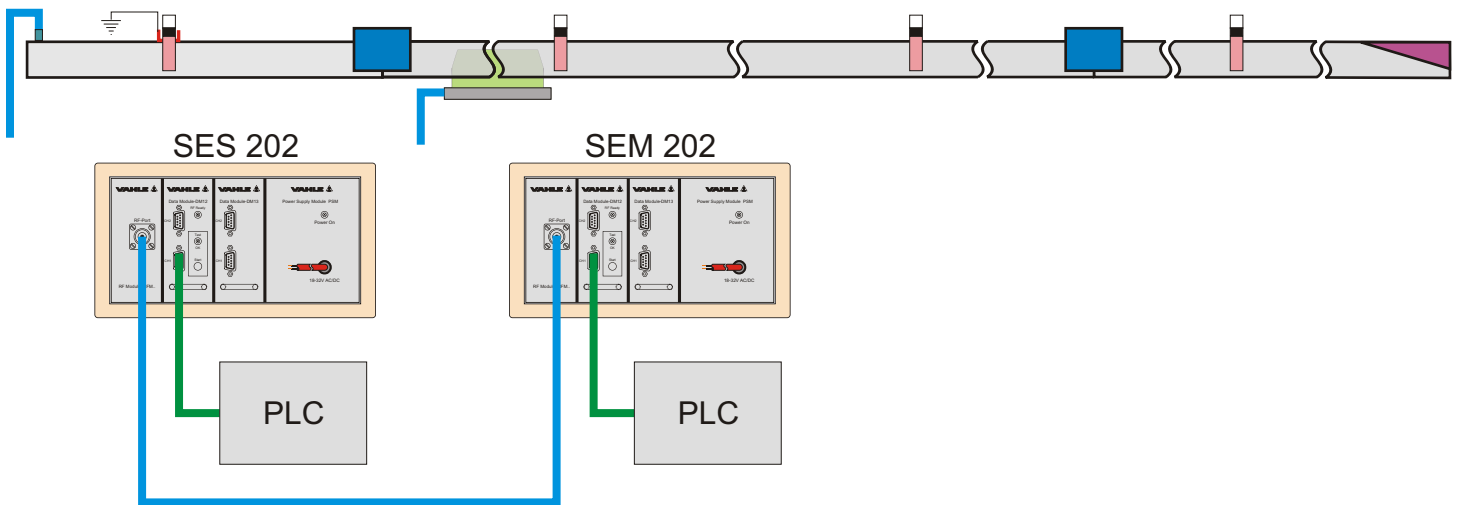

Figure 4 - Bypassing the Waveguide and RF Cables
Step 3 - If bypassing the SMG system eliminates communication errors, bypass the waveguide and antenna with a new RF cable connected between the two transceivers (see figure 4). If communication errors disappear, a waveguide, antenna, or rf cable problem is confirmed. If the communication errors persist, a transceiver or data cable problem is confirmed.